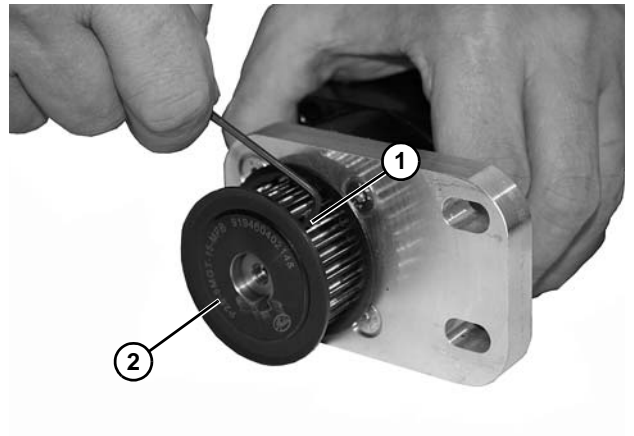

Figure 151
11. Loosen two set screws (**Figure 151, item 1**) holding drive motor gear (**Figure 151, item 2**) onto drive motor shaft.
Take note of the drive motor gear (**Figure 151, item 1**) placement. When reassembling the drive motor gear, it should be reassembled to the exact same location on the shaft.